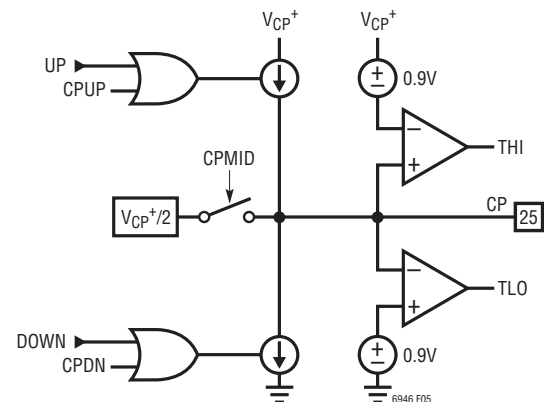

Figure 5. Simplified Charge Pump Schematic
The charge pump, controlled by the PFD, forces sink (DOWN) or source (UP) current pulses onto the CP pin, which should be connected to an appropriate loop filter. See Figure 5 for a simplified schematic of the charge pump.
The CPCHI and CPCLO bits found in register h0A enable the high and low voltage clamps, respectively. When CPCHI is enabled and the CP pin voltage exceeds approximately $V_{CP^+} - 0.9V$, the THI status flag is set, and the charge pump sourcing current is disabled. Alternately, when CPCLO is enabled and the CP pin voltage is less than approximately $0.9V$, the TLO status flag is set, and the charge pump sinking current is disabled. See Figure 5 for a simplified schematic.